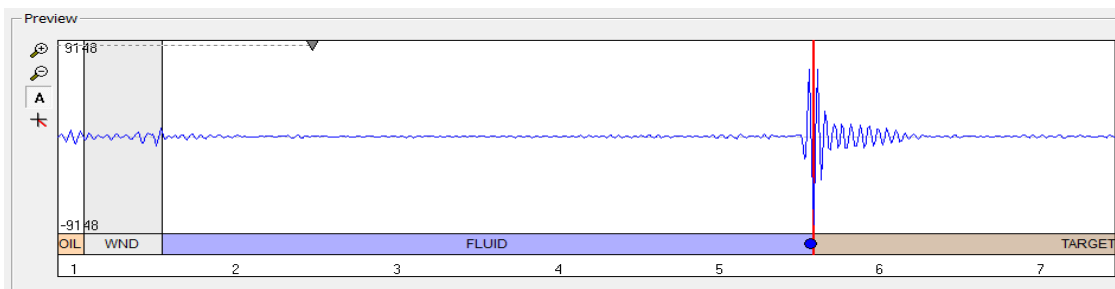

Figure 4-12 Start gate set in automatic multiple mode
- **Automatic Multiple:** the system will automatically adjust the start time of the Echo Gate so that the first multiple of the Acoustic Window reflection is skipped. This setting is useful for large diameter boreholes when the amplitude of the first multiple of the Acoustic Window reflection is higher and arrives earlier than the echo from the borehole wall (Figure 4-12).